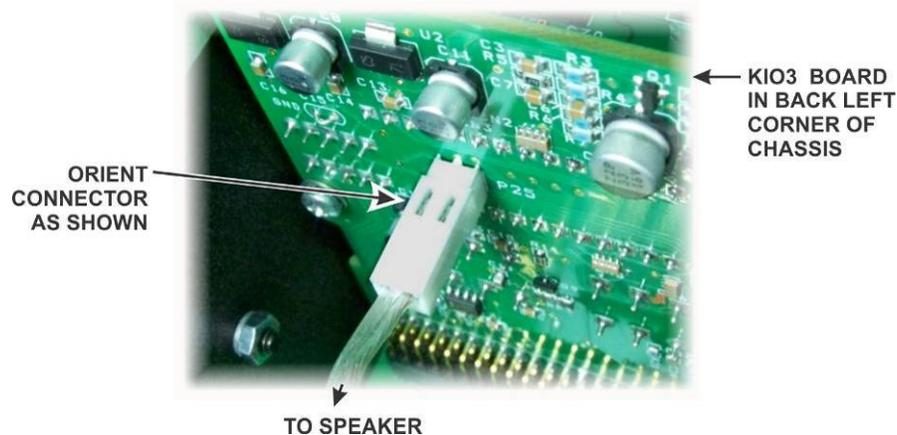

Figure 22. Connecting Speaker Cable.
- Hold the top cover above the K3, route the speaker wire under the stiffener bar and plug it into P25 on the KIO3 or KIO3B board at the left rear of the chassis as shown in Figure 22. If the K144XV module is installed pass the cable under the stiffener at the depression in the top of the K144XV.